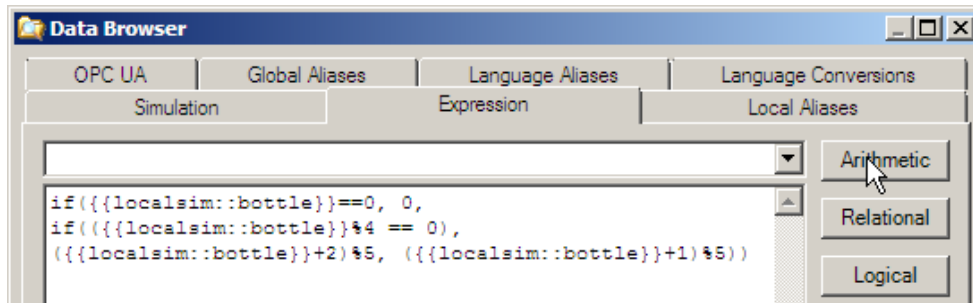

Figure 2.8 - Expression to Automate Bottling Process
25. In the WhileCheckedValue, input the expression seen in Figure 2.8.